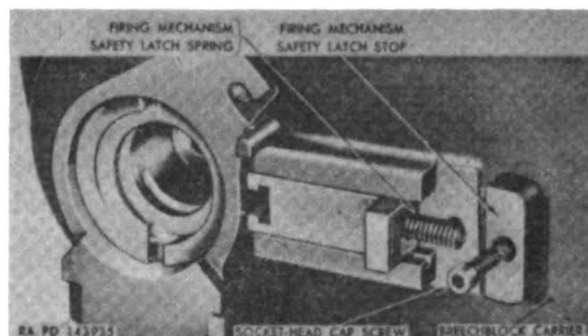

**Figure 106.** Installing or removing counterbalance cylinder spacer on or from counterbalance piston rod.
- (3) Open the breech (par. 39(1)) and swing the breechblock operating handle to the right until the counterbalance cylinder spacer can be placed between the counterbalance piston rod end and the counterbalance cylinder head (fig. 106). Then swing the operating handle with the carrier to the left until the counterbalance piston rod end can be lifted over the head of the hinge pin body pin.
(7) Lower the breechblock operating handle to its open position and swing the breechblock toward closed position until the counter-balance piston rod end can be placed over the hinge pin body pin (fig. 106). Then swing the breech open sufficiently to allow the counterbalance cylinder spacer to be removed.